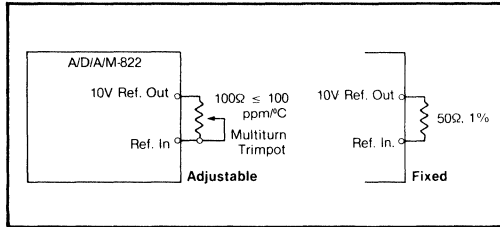

Figure 4. Gain Trimming Circuit.
6. With 50Ω, 1% fixed resistor installed per Figure 4.
If gain trimming is required by the application, a 100Ω, multi-turn potentiometer connected between the 10V Ref Out and Ref In pins per Figure 4 will provide an approximate ±0.25% FSR adjustment in gain. For many applications, a fixed 50Ω 1% resistor may be used in place of the trimpot.